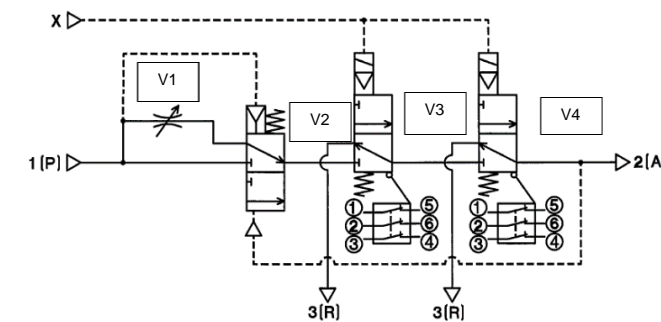
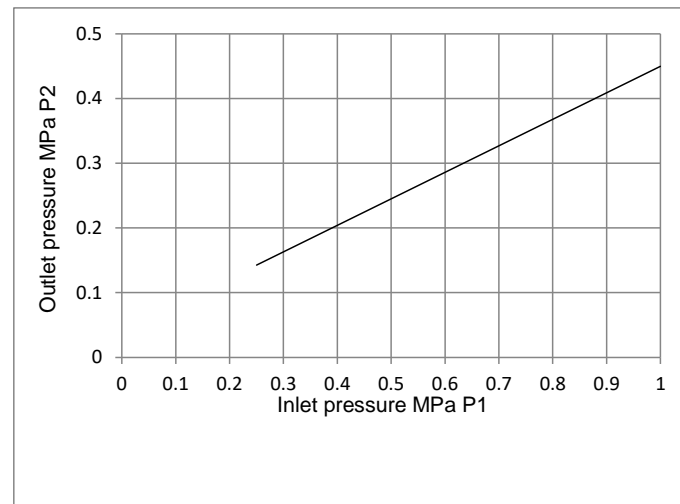

Figure 4. External pilot, Rockwell switch variant
Figure 5. Switching pressure (Close → Open) of soft start-up valve V2
- In a safety related application, the machine safety system will energise the safety valves (V3 and V4 in Figure 4) when the machine is safe to operate. When both valves are energised air will flow into the protected system via port 2 (A). The flow is initially limited by needle valve V1 and pressure in the protected system will remain low as the system fills or actuators move slowly. The pressure will eventually rise as the system becomes full or the actuators stop moving. As P2 pressure increases (see Figure 5) valve V2 switches and valve V1 is by-passed. In this condition air will flow into the protected system according to the figures given in section 2.3.